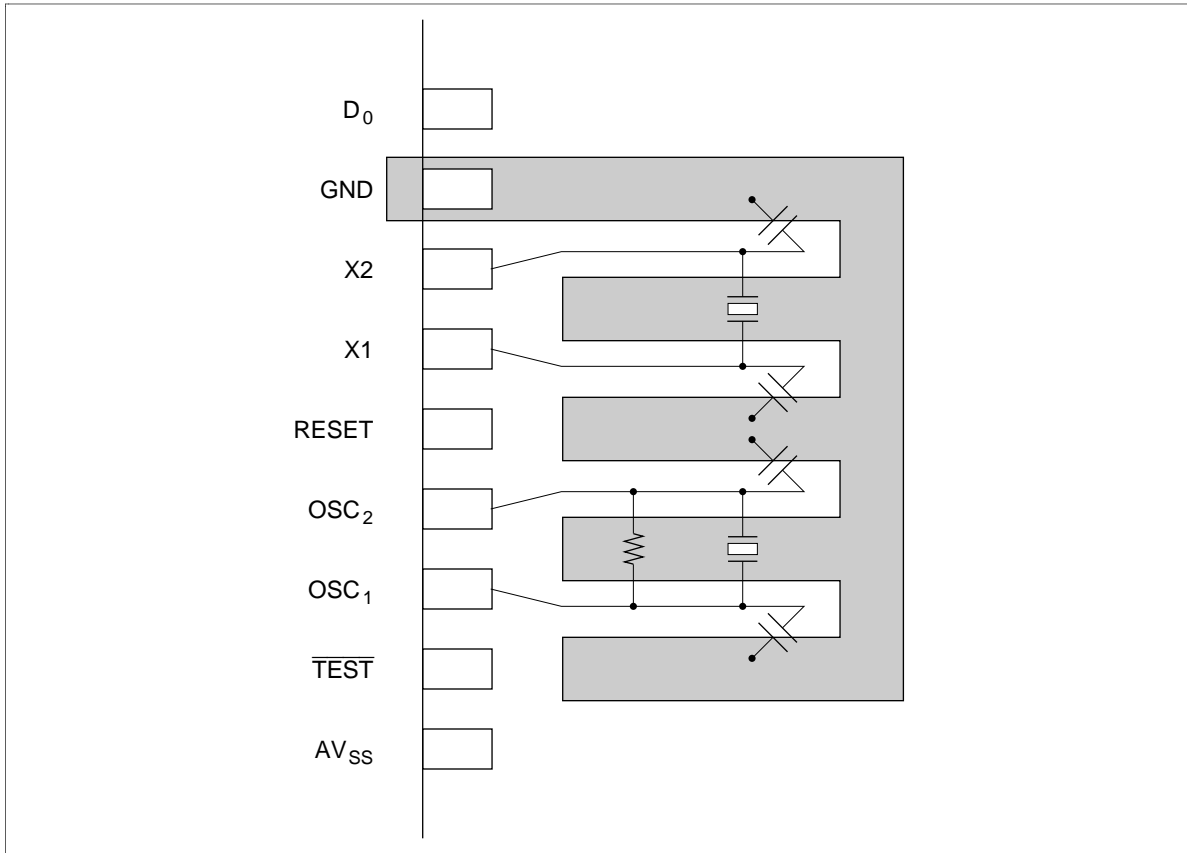

Figure 23 Typical Layout of Crystal and Ceramic Oscillators
2. The wiring between the OSC1 and OSC2 pins (X1 and X2 pins) and the other elements should be as short as possible, and must not cross other wiring. Refer to figure 23.